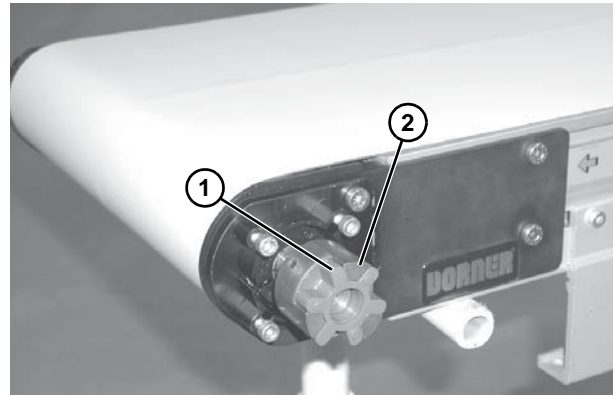

Figure 6
2. Install spider bushing (**Figure 6, item 1**) in three jaw coupling (**Figure 6, item 2**).